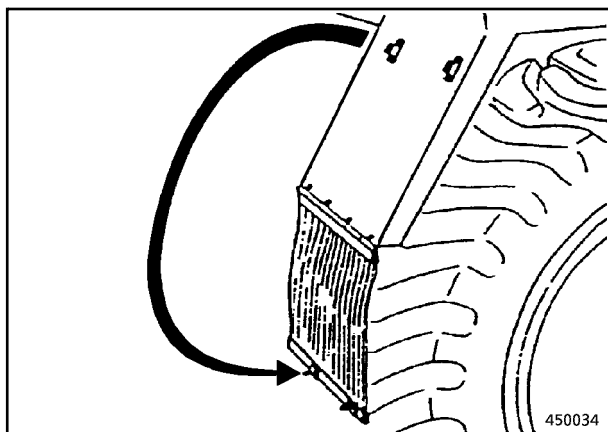

Fig. 1
- Lower the front-wheel splashguards (Fig. 1).